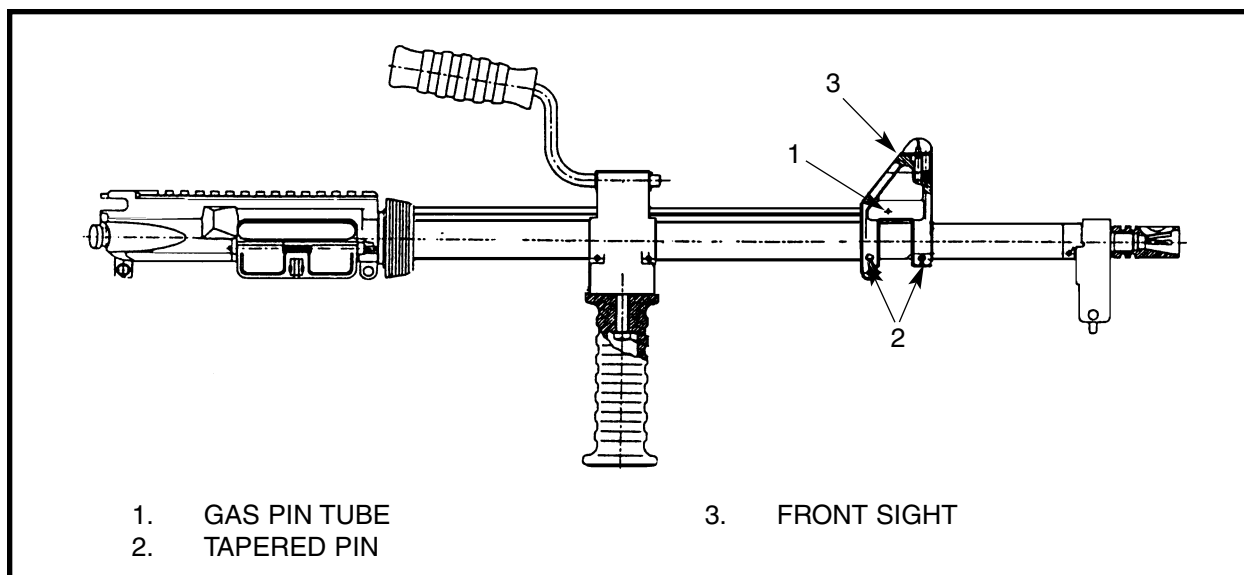

Figure 3-2-13 Removing the LSW Gas Tube
- (1) Drive out the gas tube spring pin (1);
- (2) Support the front sight and drive out the two tapered pins (2) that position the front sight on the barrel; and
- (3) Slide the front sight (3) forward until it is clear of the gas tube and rotate it until the gas tube can be removed to the front. See Figure 3-2-13